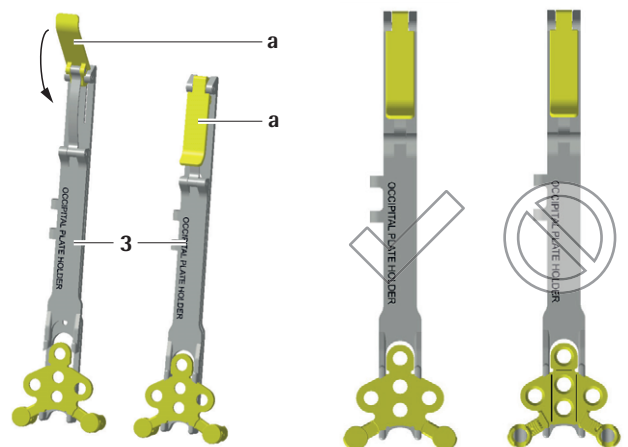

Fig. 2
- ▶ Align the plate to plate holder 3 face down, so that the drill guide can later be clipped into the plate holder, see Fig. 2.